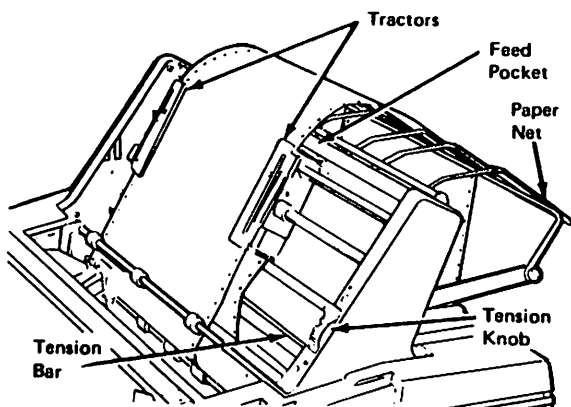

Figure 24 Installing forms
2. Turn the tension knob on the bi-directional forms tractor fully downward (Figure 24).
5. Insert the paper into the feed pocket so that the pin feed holes at the top of the paper engage the tractor feed pins, turn the platen knob to move the paper through the rear of the tractors, over the tension bar, around the platen, inside the paper bail, and up to the front side of the tractors (Figures 24 and 25). When using single part forms, it is helpful to fold the first sheet over the second to insert the paper.